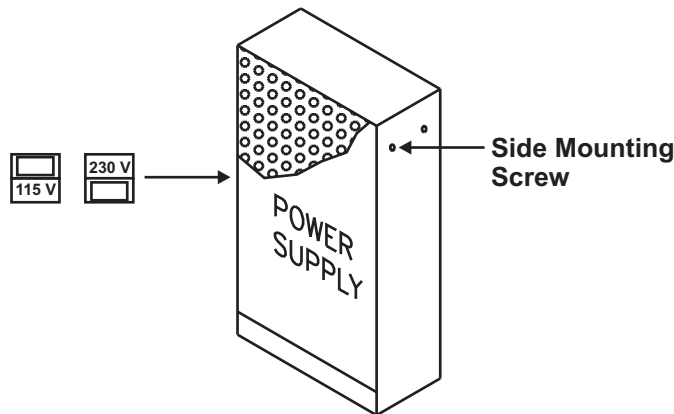

Figure 2-4. Power Supply Unit
4. Ensure that the power supply unit AC-input-voltage selector switch is set to the proper position for either 115 Vac or 230 Vac. See Figure 2-4 below.
5. Locate the side mounting screw which is in place on the side of the power supply unit. Refer to Figure 2-4 above for location of hole. Back out the screw by approximately 1/8-inch.
Note: The default power configuration is 120 Vac and will require resetting for 220/240 Vac operation. Configuration of primary AC power requires that the AC power-selection switch on the side of the power supply unit be set correctly before it is installed in the enclosure. Refer to Figure 2-4 for switch location.